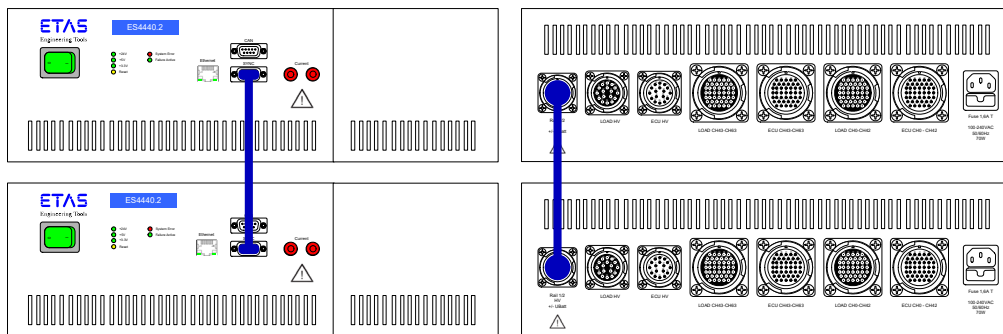

Fig. 2-5 Connecting the “SYNC” Lines and the Failure Rails
- The synchronization signals of the multiplexer relays (“SYNC” connector on the front panel, see Fig. 2-5 on the left)
- The lines of the failure rails (“Rail 1/2” connector on the rear of the device (Fig. 2-5 on the right)